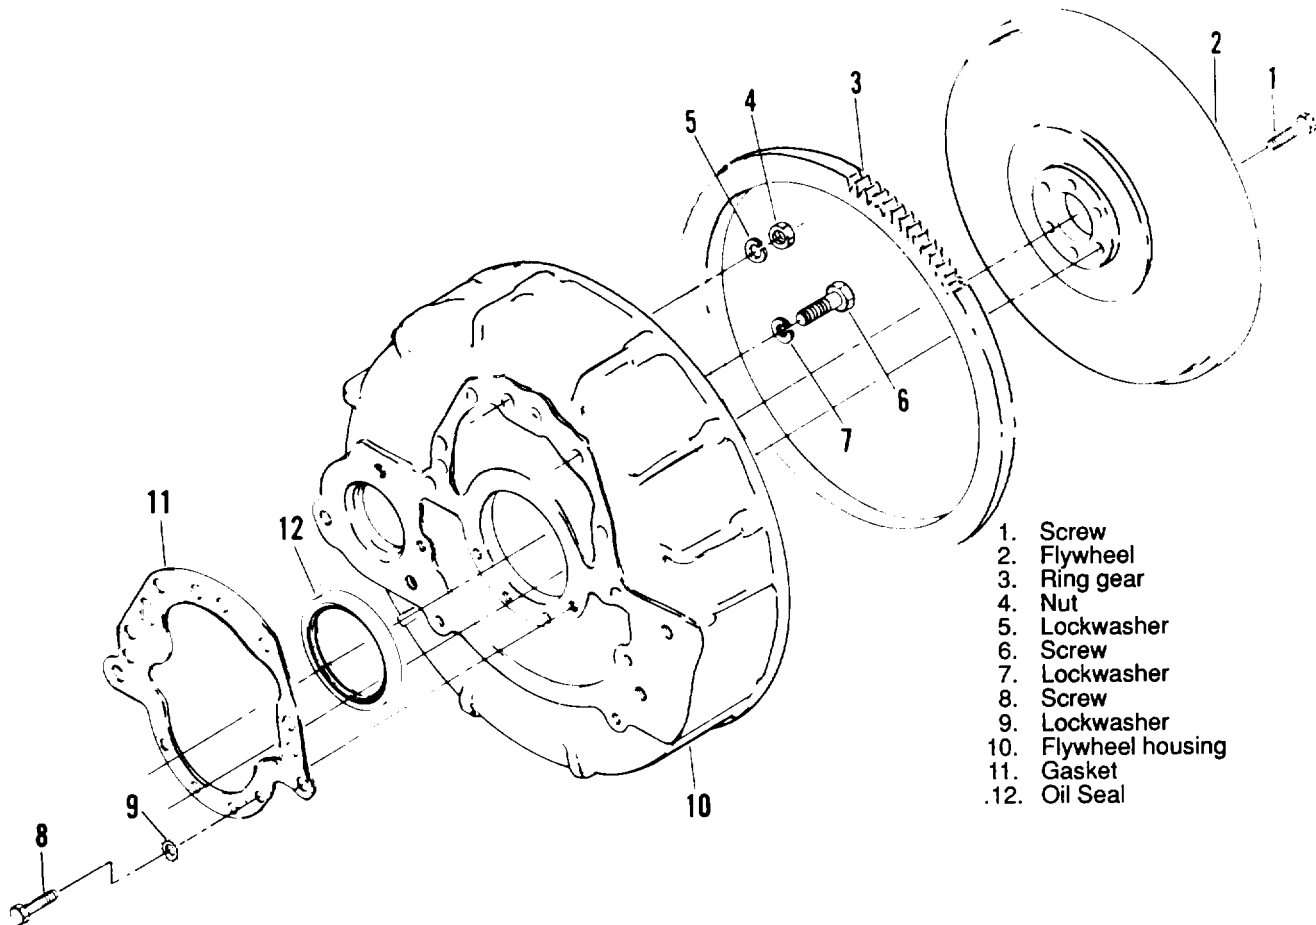

Figure 3-42. Flywheel and Flywheel Housing, Exploded View
- (1) Remove oil pan assembly (paragraph 3-37).
- (2) Remove screws (1, figure 3-42) to remove flywheel (2) and ring gear (3) as an assembly. Do not remove ring gear unless it is badly damaged and replacement is necessary.
- (3) Remove nuts (4), lockwashers (5), screws (6), lockwasher (7), screw (8) and lockwasher (9) to remove flywheel housing (10) and gasket (11). Discard gasket.
- (4) Using a suitable press, remove oil seal (12) from flywheel housing and discard.
- (1) Using a suitable press, install new oil seal (12, figure 3-42) to flywheel housing.
- (2) Install gasket (11), flywheel housing (10), with lockwashers (9), screw (8), lockwasher (7), screws (6), lockwashers (5) and nut (4).
- (3) Install ring gear(3), as an assembly onto flywheel (2) with screws (1).
- (4) Install oil pan assembly (paragraph 3-37).